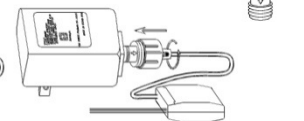

Fig. 3
- Screw the collar completely onto the Power Supply turning clockwise {Fig. 3}